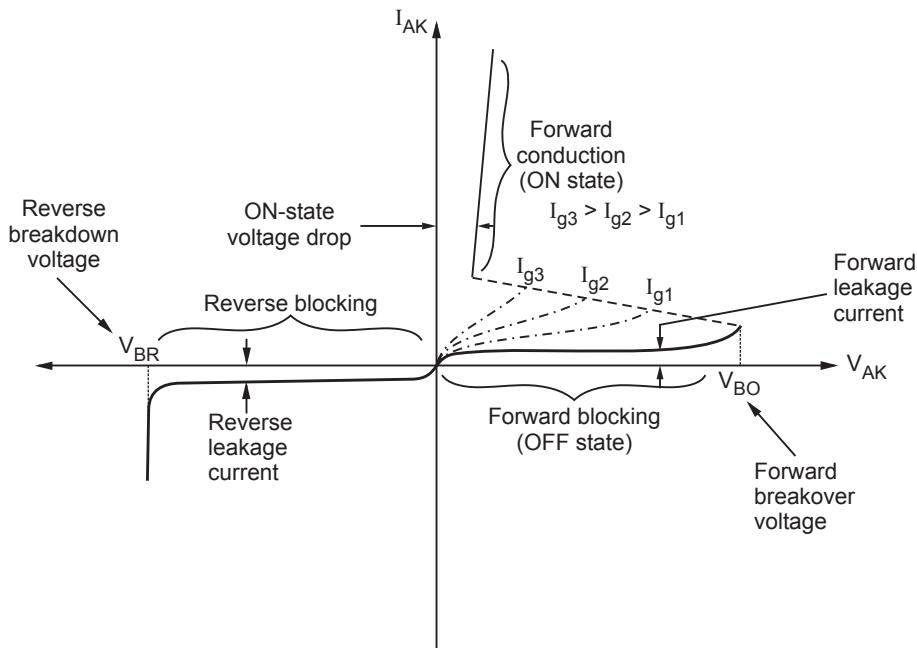
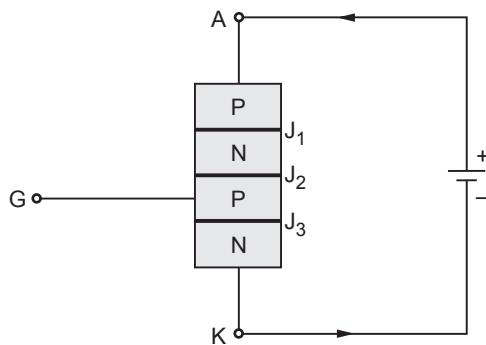
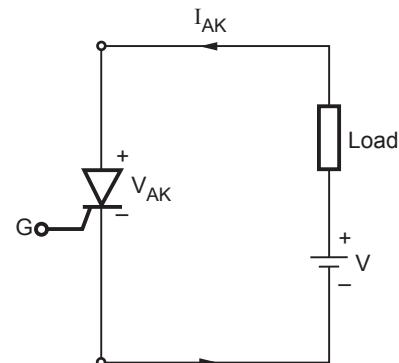

Fig. 1.2.1 Steady state or static V-I characteristics of a SCR
Fig. 1.2.3 SCR in forward biased condition
Fig. 1.2.4 Use of SCR in forward conduction
The working of the SCR can be discussed into three modes : Reverse blocking mode, forward blocking mode and forward conduction mode. Fig. 1.2.1 shows the V-I characteristics of the SCR.
The characteristics shown in the Fig. 1.2.1 are called static characteristics. The anode to cathode current I_{AK} is plotted with respect to anode to cathode voltage V_{AK} . The voltage ' V_{BO} ' is the forward break over voltage. ' V_{BR} ' is the reverse break-down voltage. And I_{g1}, I_{g2}, I_{g3} are the gate currents applied to the SCR.
In the above figure, observe that the anode (A) is made negative with respect to cathode (K). The gate is kept open. There are three PN junctions in the SCR : J_1, J_2 and J_3 . Due to this reverse bias, junctions J_1 and J_3 are also reverse biased. And junction J_2 is forward biased. The SCR does not conduct due to this reverse bias. A very small current flows from cathode to anode. This current is called *reverse leakage current* of the SCR. This mode is called reverse blocking mode. Fig. 1.2.1 shows the characteristic of SCR in reverse blocking mode. Observe that reverse voltage increases but very small current flows. At reverse breakdown voltage (V_{BR}), the reverse current increases rapidly. At the time of reverse breakdown, the high voltage is present across the SCR and heavy current flows through it. Hence large power dissipation takes place in the thyristor. Due to this dissipation, the junction temperature exceeds the permissible value and the SCR is damaged. Hence a reverse voltage across the SCR should never exceed V_{BO} .
The SCR is said to be forward biased when anode is made positive with respect to cathode as shown in Fig. 1.2.3. Due to this forward bias the junction J_1 and J_3 is forward biased and J_2 is reverse biased. Hence the forward voltage is to be held by junction J_2 . A very small current flows from anode to cathode. This current is called forward leakage current. This current is of the order of few milliamperes. In the forward blocking mode, the thyristor is forward biased but it does not turn-on. In the forward blocking mode a very small forward leakage current flows. In the forward blocking mode the voltage (V_{AK}) can be increased till V_{BO} . This situation is shown in Fig. 1.2.1. When the forward voltage reaches V_{BO} , the SCR turns on. The SCR goes from forward blocking mode to forward conduction mode. Normally gate drive is applied for this purpose. The highest voltage to be sustained in forward blocking mode is forward break-over voltage, V_{BO} .
The SCR is driven into forward conduction mode when anode to cathode voltage (V_{AK}) exceeds the forward break-over voltage (V_{BO}). The SCR is said to have *turned-on* when it operates in forward conduction mode. When $V_{AK} > V_{BO}$, the SCR is driven in forward conduction even if gate is open. From Fig. 1.2.3, it is clear that junction J_2 is reverse biased during forward blocking mode ($V_{AK} < V_{BO}$). When V_{AK} exceeds V_{BO} , the avalanche break-down of junction J_2 takes place even if gate drive is not applied. Hence heavy current starts flowing through the SCR and anode to cathode voltage falls to very small value. This is shown in Fig. 1.2.1. The dotted line (.....) indicates switching of SCR from forward blocking state (i.e. OFF) to forward conduction state (i.e. ON). The anode to cathode current of the SCR is only limited by the load. Fig. 1.2.4 shows such situation :
current. Hence avalanche break-down of junction J_2 takes place at lower anode to cathode voltage also. Thus SCR is driven into forward conduction mode (ON state) even if $V_{AK} < V_{BO}$. Fig. 1.2.1 shows the characteristic by center (—·—) lines when gate drive is applied. Observe that, as the gate current is increased, the SCR turns-on at lower values of anode to cathode voltages. All these anode to cathode voltages are less than V_{BO} . Thus gate triggering is the most convenient way of triggering the SCR.